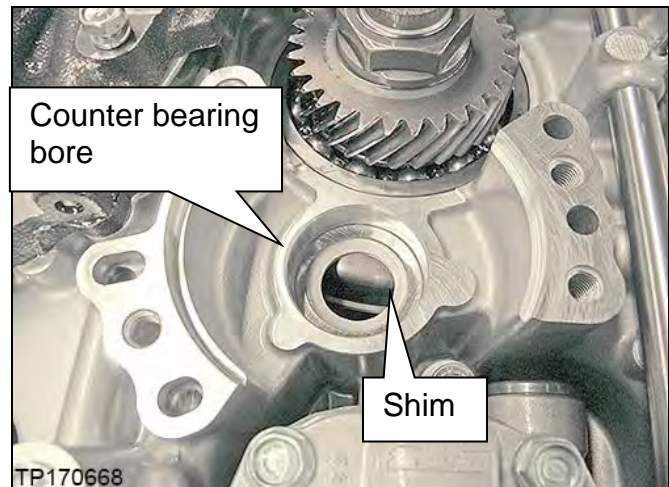

Figure 16H
16. If the bearing is judged to be OK, remove the shim (Figure 16H) from the bottom of the counter bearing bore.